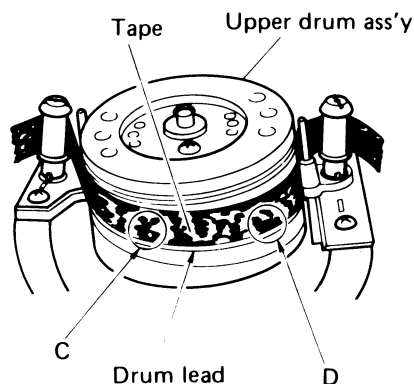

Fig. 11 Drum lead check - 2
4. Observe the tape as it becomes wrapped around drum during loading and as it separates from the drum during unloading. Confirm absence of damage to the tape at points C and D as shown in Fig. 11 and absence of contact noise between head tips and tape edge.